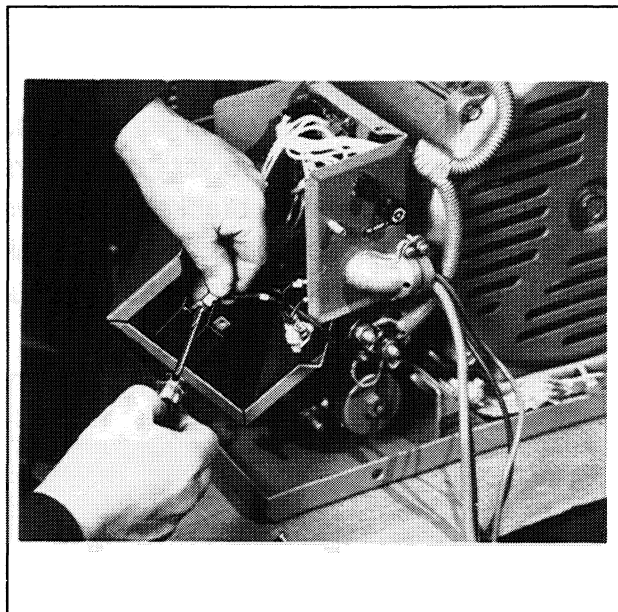

Figure 8-3. Removing Circuit Breaker Leads
5. Remove the four screws securing the controller cover. Lift the controller cover away from the controller box to disconnect circuit breaker leads. Figure 8-3. Upon removal of Start/Stop switch leads (N, 43, 47) from controller start/stop switch, the controller cover can be removed.